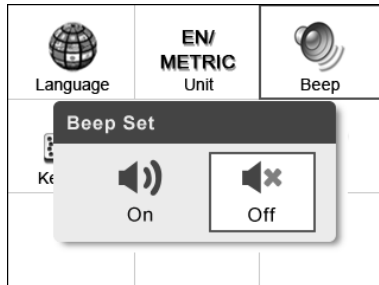

Figure 3.5
- 2) From **Beep Set** menu, use the **LEFT/RIGHT** scroll button to select ON or OFF to turn on/off the beep. (Figure 3.5)